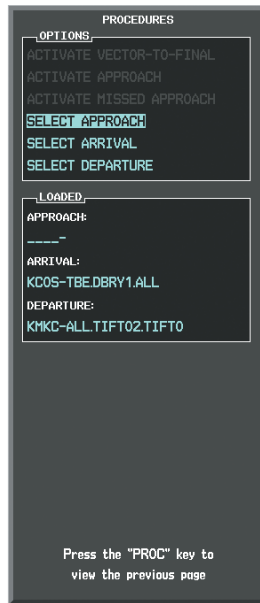

Figure 5-125 Procedures Window
b) 'SELECT APPROACH' should be highlighted as shown in Figure 5-125.
d) Turn either FMS Knob to select the LPV approach for 35R as shown in Figure 5-125.